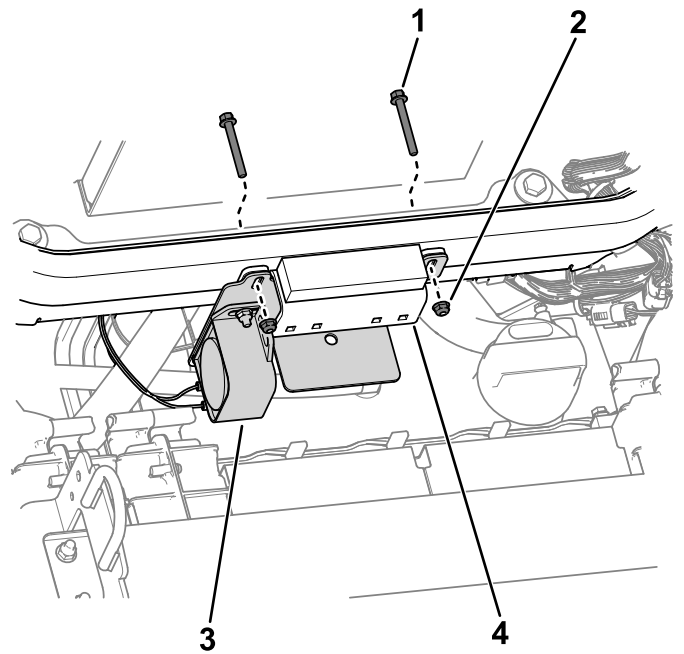

Figure 3
4. Use the existing bolts and nuts from the hood support bracket to secure the mount bracket to the traction-unit frame (Figure 3).